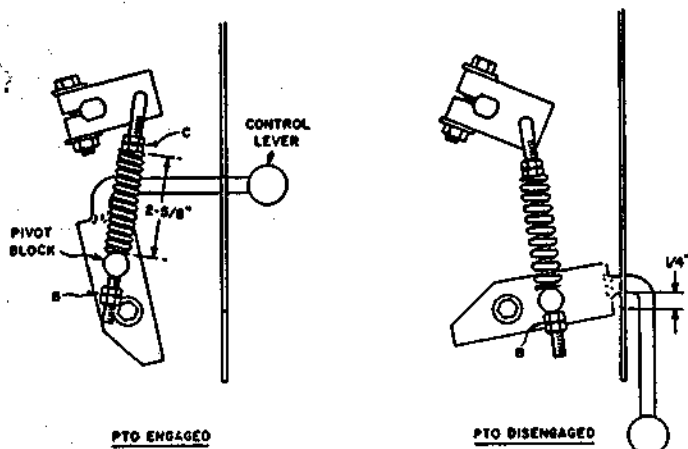
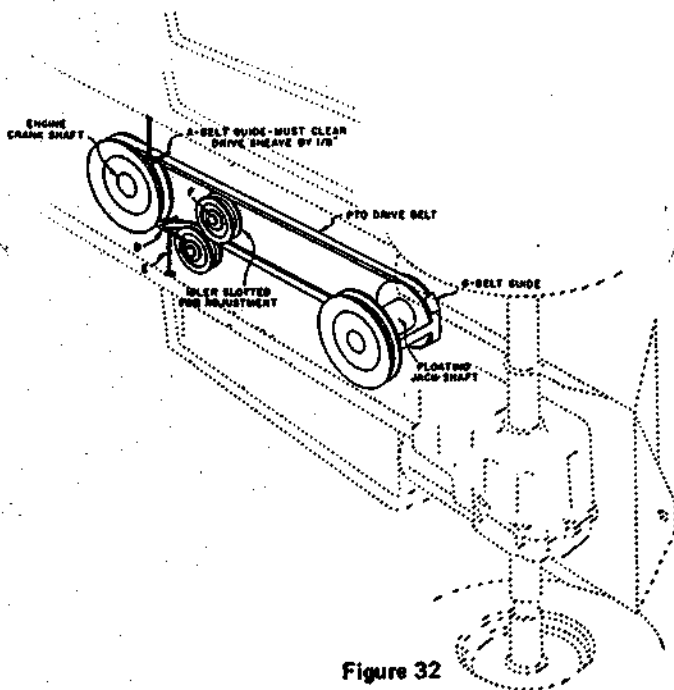

Figure 31
Figure 32
The PTO drive belt should be adjusted before the rear nuts B, Figure 31, contact the pivot block when the implement power clutch is engaged or if the belt begins to slip.
1. Engage implement power clutch and tighten nuts C, Figure 31, until the spring length is 2-5/8".
2. Position belt guides D and E, Figure 32, across from one another when the clutch is disengaged in such a manner that the belt is retained in the disengaged position. In addition, guide D must clear the engine sheave by 1/8" as the clutch is moved from the disengaged to the engaged position. Move guide D rearward if necessary to obtain this clearance.
3. With clutch disengaged, tighten nuts B, Figure 31, to obtain 1/4" clearance between the implement power clutch lever and rear of slot in the tractor frame.
If after adjustment, the rear nuts B, Figure 31, contact the pivot block when the clutch is engaged, loosen bolt F, Figure 32, and move the idler closer to the belt to provide additional adjustment. Repeat the complete adjustment sequence if it becomes necessary to move the idler.
PTO DRIVE BELT — (Figure 32)